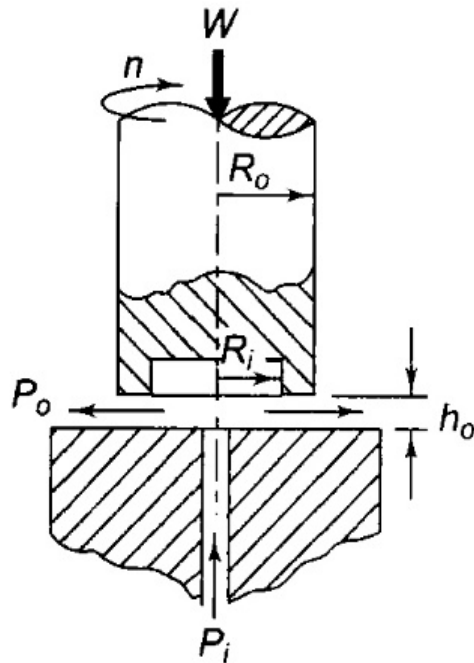
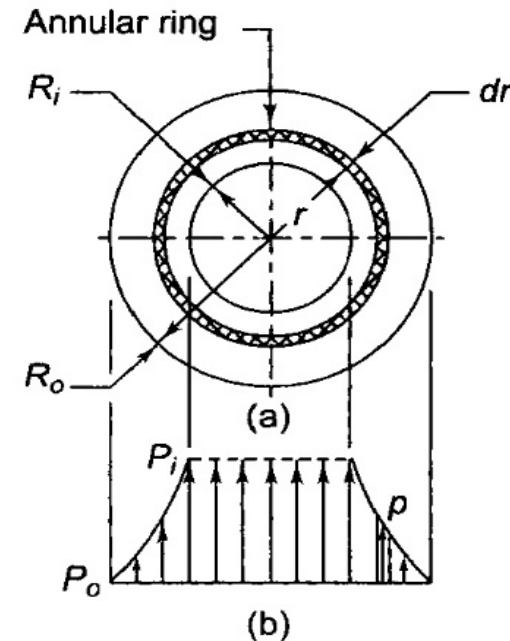

Fig 2: Hydrostatic step bearing
Fig 3: (a) schematic diagram (b) Pressure distribution
- The lubricant is flowing radially outward through the annulus of radii R_i and R_o and leaves at the periphery of the shaft (Fig. 2). Consider an elemental ring of radius r and thickness (dr) as shown in Fig. 3 (a).
- The pressure distribution is shown in Fig. 3 (b).
- The frictional power loss is determined by considering the elemental ring of radius (r) and radial thickness (dr) illustrated in Fig. 2(a).